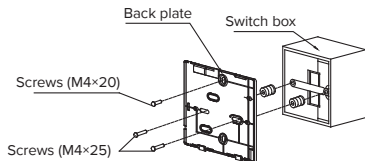

Fig. 3-6
- For switch box mounting, fasten the back plate on the switch box with 2 screws (M4x20) and fasten it on the wall with 1 screw (M4x25). (Fig. 3-6)